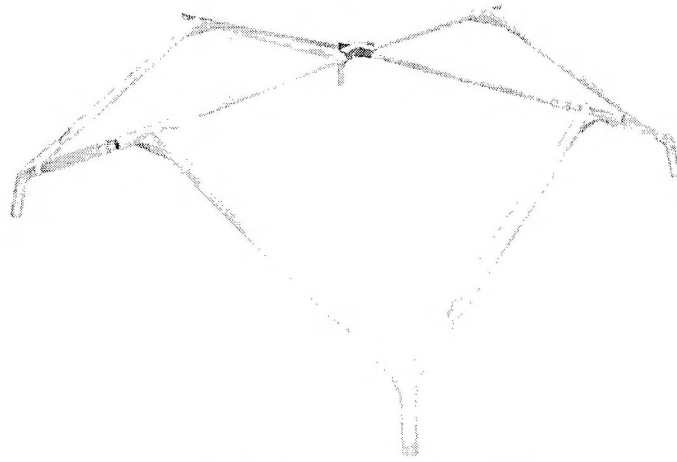

Fig 10 Roof Framework Assembled
12.2 Lay out the components and assemble the roof members. There are two different lengths of universal member and a roof member and two different types of brackets: 4-way angled brackets for the ridge and eaves, 3-way Y-piece brackets for the corners and 3-way T-piece brackets for the wall members. Figs 10 and 11.